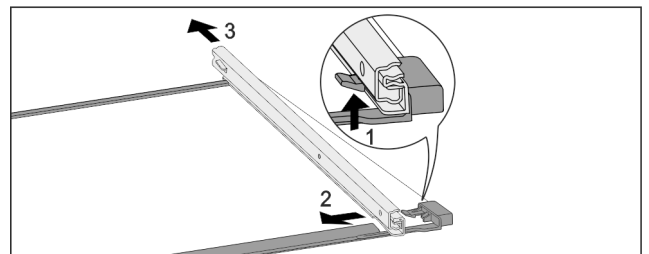

Fig. 158 Glass shelf with rails
- ▶ Push up front click-in hooks. Fig. 158 (1)
- ▶ Slide pull-out rails to the side Fig. 158 (2) and backwards Fig. 158 (3).